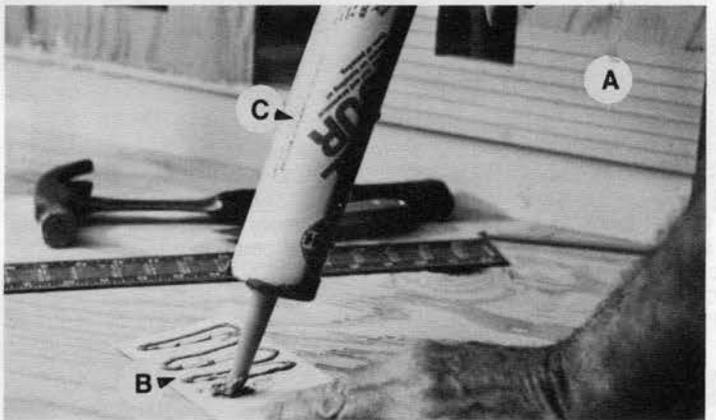

Fig. D-5
As in (FIGURE D-5), start at the bottom rear, flush with the bottom of the wall to be covered. Mark window openings and cut out with your utility knife.
We recommend using a good wall panel adhesive in a caulking gun, (C). Apply a 1/8 inch bead spaced about 3/4 inch intervals, (B), in (FIGURE D-5)